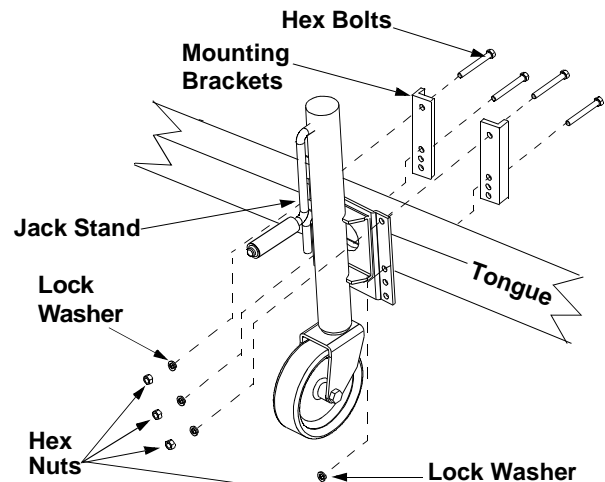

Figure 3
- Remove four hex bolts, lock washers, and hex nuts that secure jack stand mounting brackets to the jack stand. See Figure 3.
- Insert hex bolts through top holes in jack stand mounting brackets and holes in jack stand. Secure with lock washers and hex nuts. See Figure 3.
- Insert hex bolts through upper holes in the bottom of mounting brackets and jack stand. Secure with lock washers and hex nuts. See Figure 3.